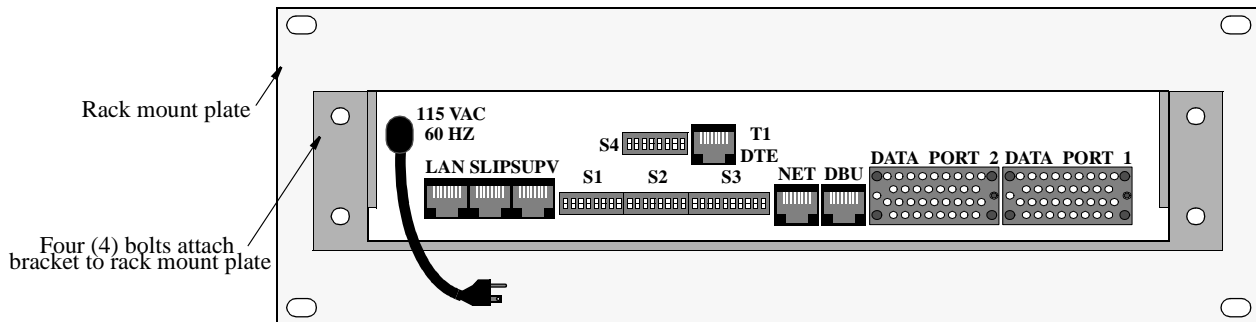

Figure 2-2 Rack Mount Assembly (Rear View)
2. Connect this assembly to the 19-inch or 23-inch plate using the four nuts and bolts as shown in Figure 2-2. When the mounting plate is attached to the PRISM 3101/3102 and the casing, the unit is secure and cannot be pulled out of the assembly from the front.